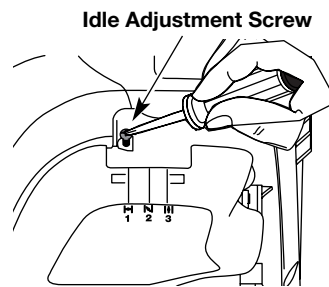

Fig. 33
The idle speed of the engine is adjustable. An idle adjustment screw is between the air filter cover and the engine starter housing (Fig. 33).
2. Move the throttle control to the idle position (👉) and let the engine idle. If the engine stops, insert a small phillips screwdriver in between the Air Filter Cover and the Engine Cover (Fig. 33). Turn the idle speed screw in, clockwise, 1/8 of a turn at a time (as needed) until the engine idles smoothly.